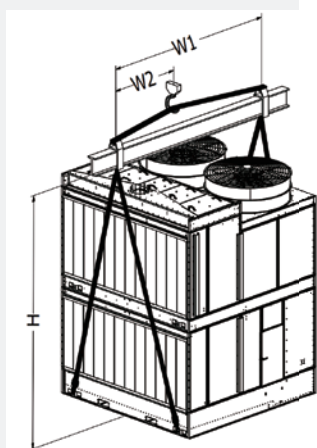
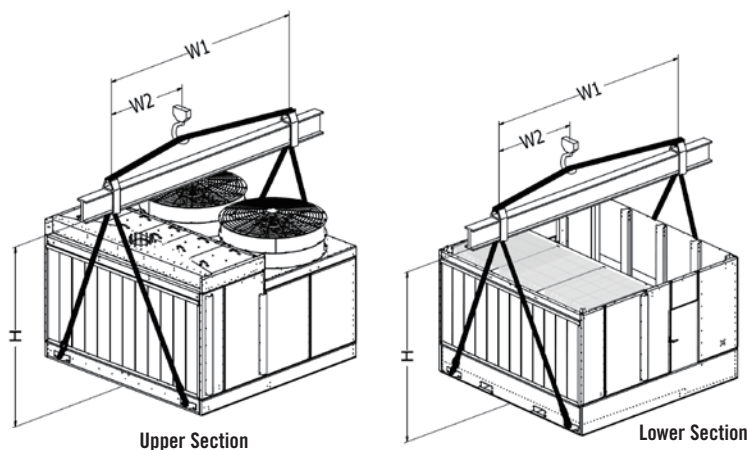

Figure 1. Single Piece Lift
Figure 2. Two-Section Cells
Refer to **Table 1** and **Figures 1 and 2** for the required minimum spreader bar and the recommended vertical dimension “H” from the lifting device at the base of each unit or section to the spreader bar. **Figure 1** shows the proper rigging of a Series 1500E that ships in one-section. **Figure 2** shows the proper rigging of a two-section unit.
All single cell 1500E Cooling Towers are designed to be lifted in one assembled piece as shown in **Figure 1**. A two piece lift is shown in **Figures 2 and 3**.
2. **Figures 2 and 3** show the proper rigging of the sections for units that ship in two sections. Position the lower section on the steel support and bolt in place.